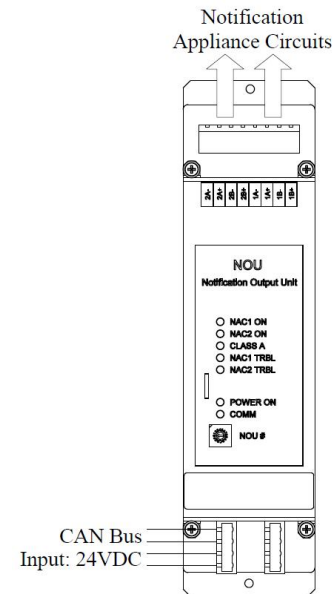

Figure 3. FW337 Terminals
3. Connect the FW337 with the FW201 AMI and/or the other units through the two 4-pin terminals for CAN Bus and Input: 24VDC, using the wires and terminals provided, see Figure 3. The terminal upside is for the notification appliance circuits.